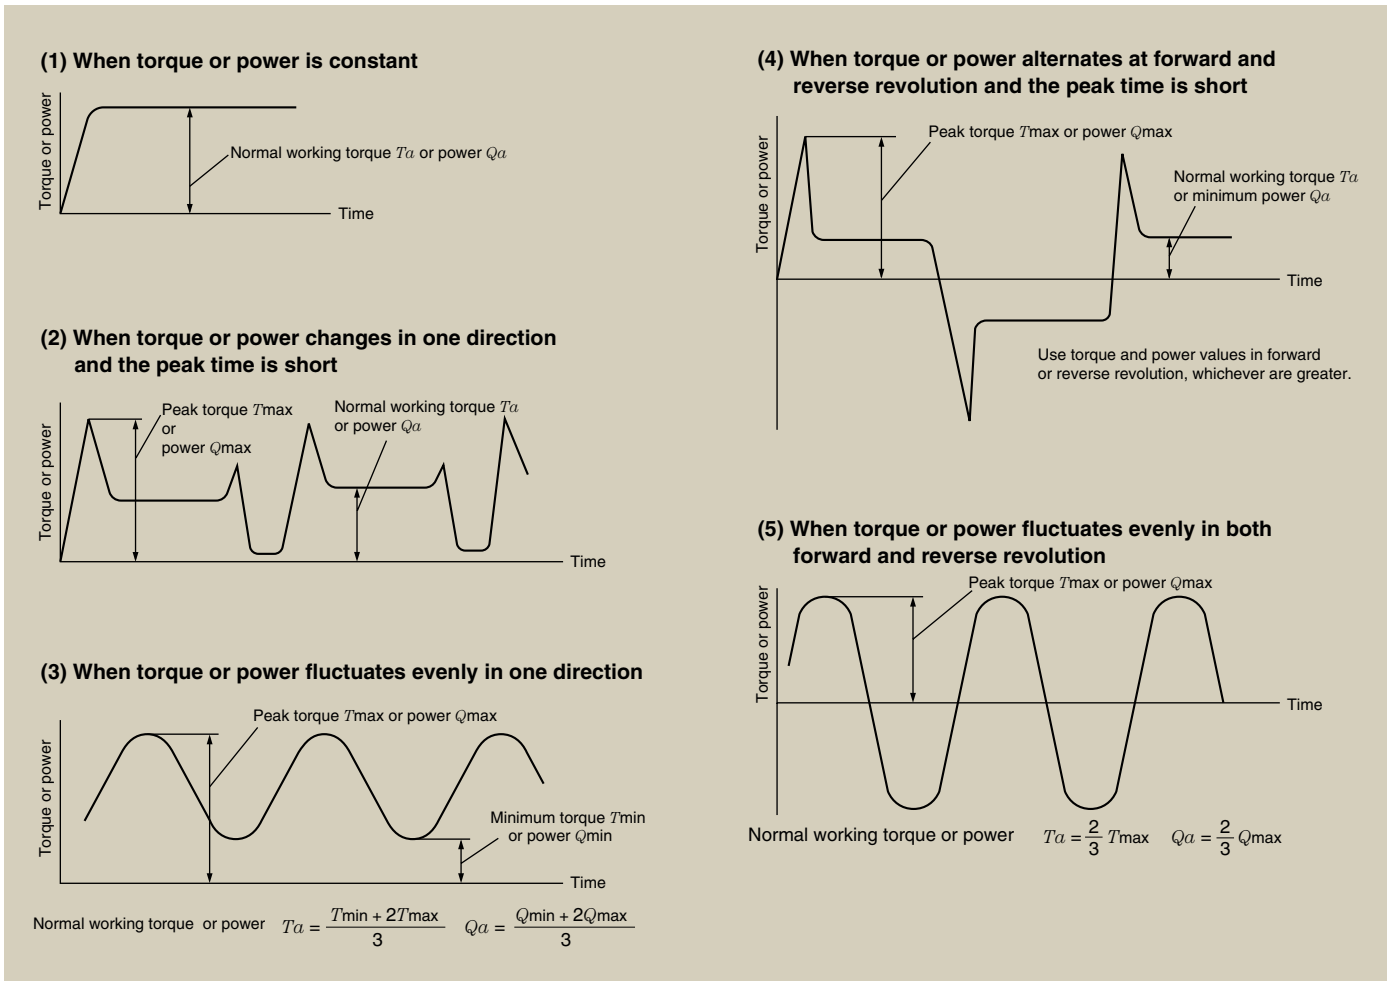

Fig. 1 Load models
1.1 By referring to the load models in Fig. 1, determine normal working torque T_a {kgf·m} or power Q_a {kW}.